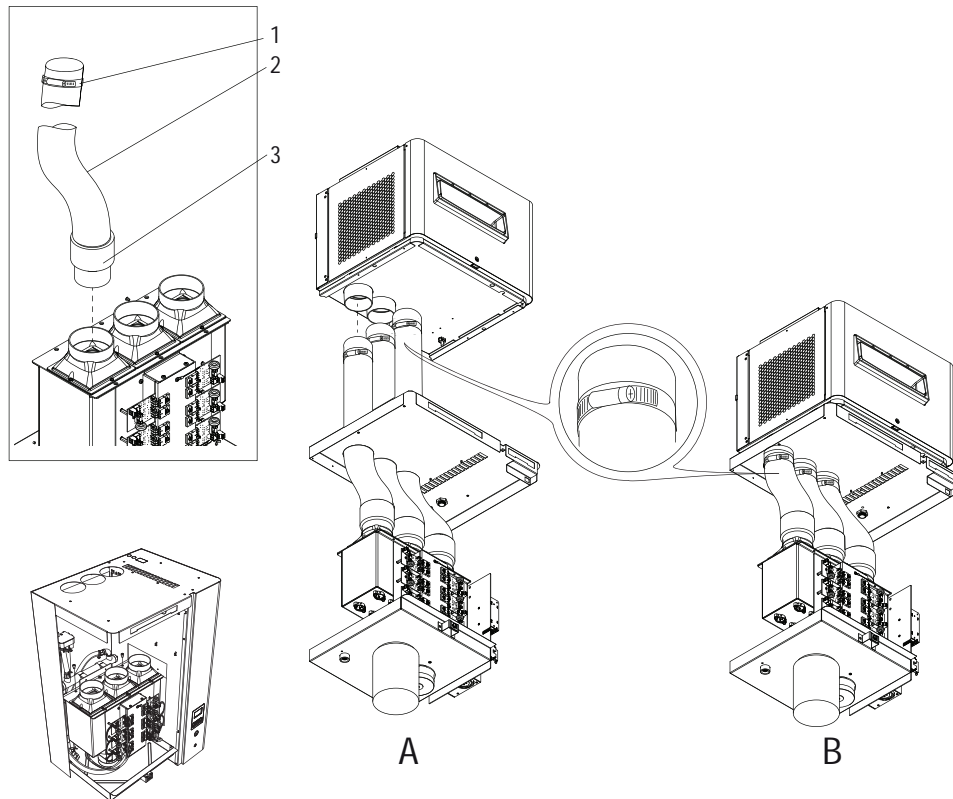

Figure 9 - Flexible Tubes. (A) Remote-Mount Installation. (B) Direct-Mount Installation.
- b. Route the 'connector' end (item 3) of the flexible tube to the top of the water reservoir. Secure the connection by gently inserting the connector and tube into the reservoir, as seen in Figure 9 below.